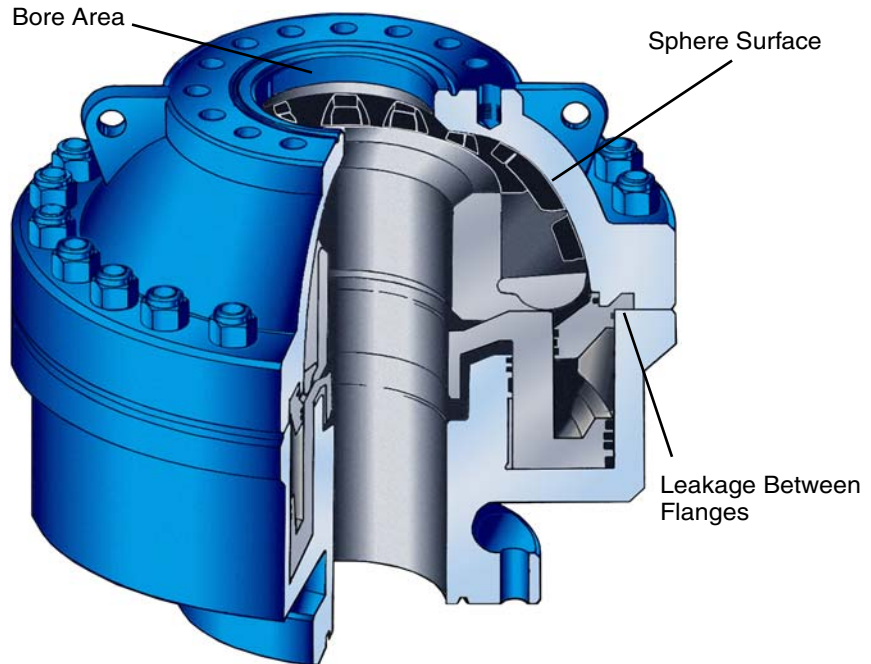

Figure 4-4. Sphere Surface Check (Applicable to All Models)
4. Inspect the sphere surface for deep nicks or scratches (see Figure 4-4). If deep nicks or scratches are present, contact your Shaffer representative.
5. Inspect the sealing area of seal C for corrosion, pits, or scratches. Remove with an emery cloth (see Figure 4-4).
6. Visually check the bore area for excessive wear (see Figure 4-4). In case of major scoring, contact your Shaffer representative.